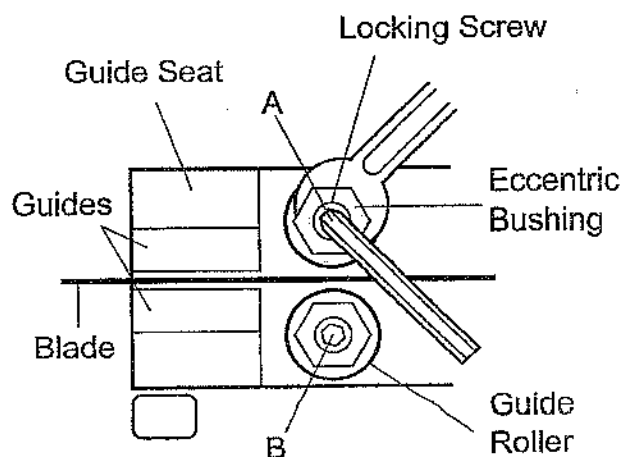
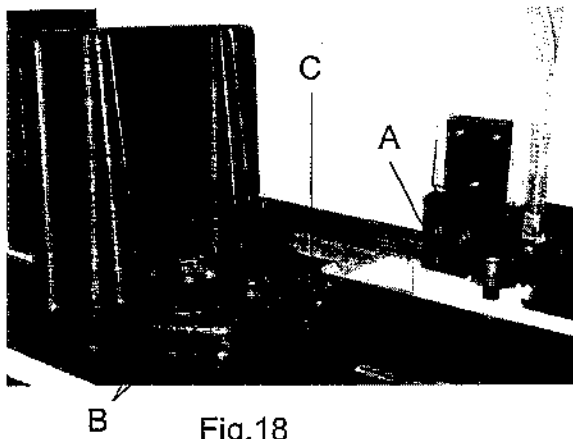

Fig. 17
Fig.18
**Note:** Only bearing (A - Fig. 17) is adjustable. Bearing (B - Fig. 17) is fixed.
guide adjustment screw (Fig. 17) and hex socket cap screw (A - Fig. 18). Slide blade guides away from blade.
3. Loosen locking screws (A - Fig. 17) by using a hex wrench.
4. Adjust the eccentric bushings with a combination wrench until the ball bearings are snug to the blade (A - Fig. 17) Note: blade should travel freely up and down between the ball bearings. Do not pinch the blade.
5. Tighten locking screws (A - Fig. 17).
6. Slide blade guides back into contact with blade and tighten thumb screw (Fig. 17) and hex socket cap screw (A - Fig. 18).
3. Use one hand to lift up the rack block (C - Fig. 18) and slide back the movable vise jaw.